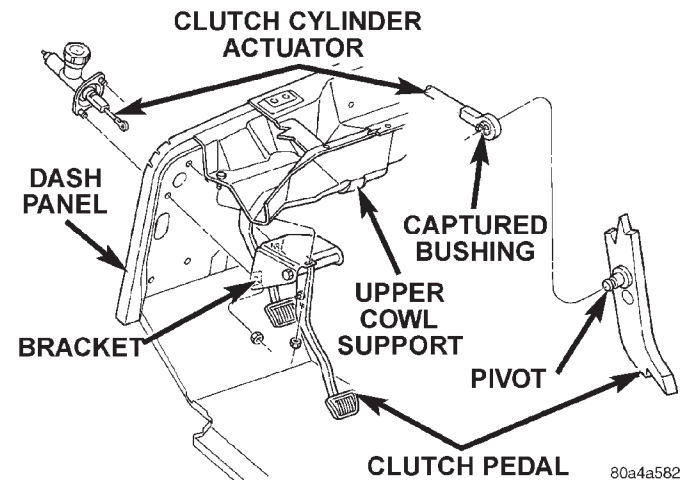
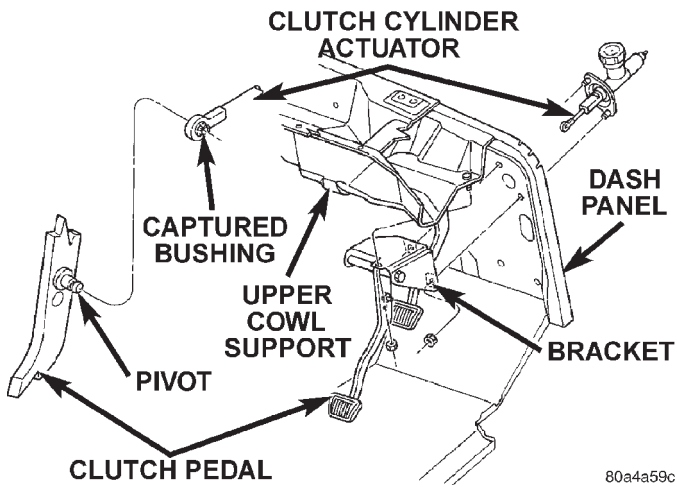

Fig. 11 Clutch Pedal Mounting
Fig. 12 Clutch Pedal Mounting—Right Hand Drive
- (1) Remove steering column lower cover and knee blocker for access. Refer to Group 8E, Instrument Panel for procedure.
- (2) Disconnect clutch pedal position switch wires.
- (3) Disengage captured bushing lock tabs attaching clutch master cylinder actuator to pedal pivot (Fig. 11) or (Fig. 12).
- (4) Remove nuts attaching pedal and bracket to dash panel and upper cowl support (Fig. 11) or (Fig. 12).
- (5) Separate pedal assemble from vehicle.
- (1) Place clutch pedal and bracket over studs on dash panel and cowl support (Fig. 11) or (Fig. 12).
- (2) Install nuts to attach pedal and bracket to dash panel and upper cowl support (Fig. 11) or (Fig. 12). Tighten nuts to 39 N-m (29 ft. lbs.) torque
- (3) Engage captured bushing and actuator on brake pedal pivot (Fig. 11) or (Fig. 12).
- (4) Connect clutch pedal position switch wires.